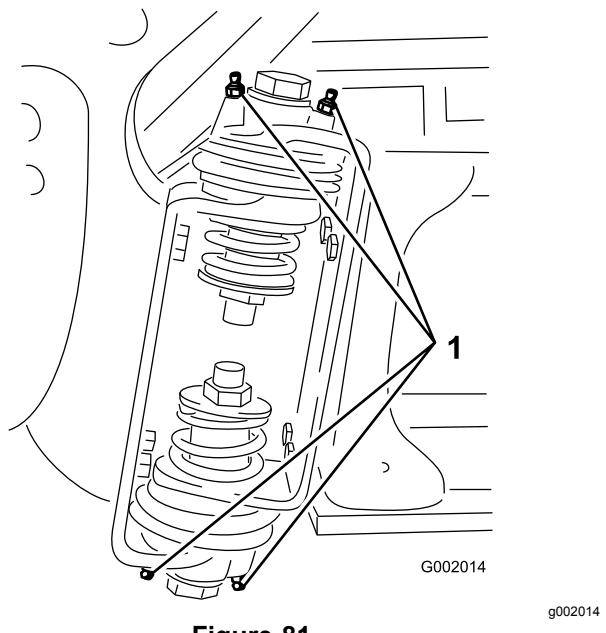

Figure 81
2. Pump grease into the bearing or bushing at each fitting Figure 81.